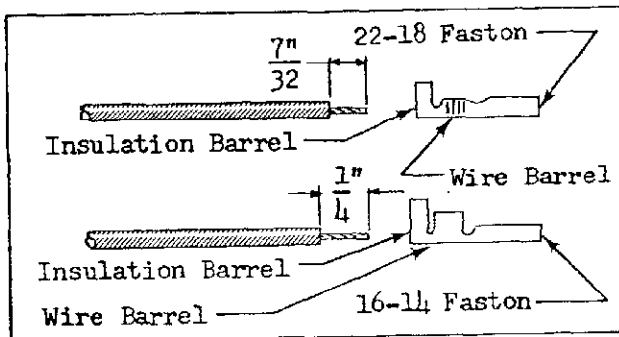

FIG. 2
- (a) For 22-18 Terminals, strip wire 7/32 inch. See Figure 2.
- (b) For 16-14 Terminals, strip wire 1/4 inch. See Figure 2.